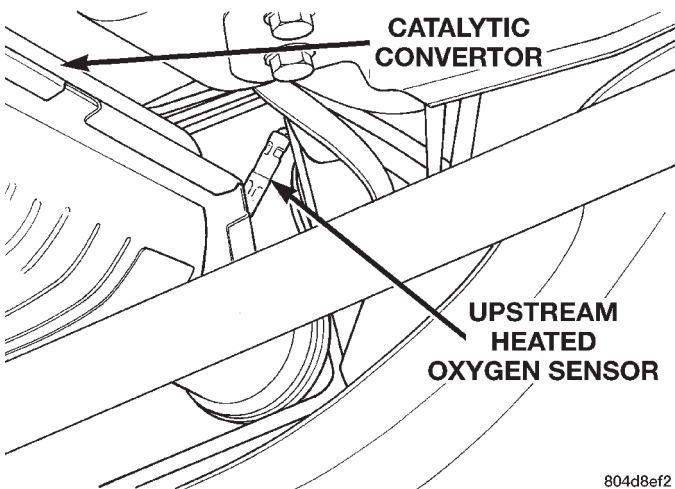

Fig. 91 Oxygen Sensor 1/1 Upstream
- (1) Raise and support vehicle.
- (2) Disconnect electrical connector from sensor.
- (3) Remove sensor using an oxygen sensor crow foot wrench such as Snap-On tool YA8875 or equivalent (Fig. 91).